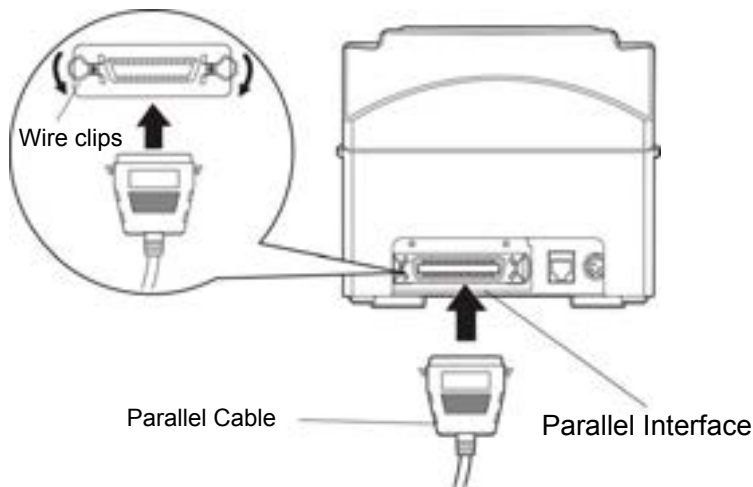

Figure 2-3 Connecting the parallel cable
1. Make sure that the computer and the printer are both turned off, connect the parallel cable to the parallel interface connector of the printer, and squeeze the wire clips on both sides of the connector to make the cable fixed. (As shown in Figure 2-3)